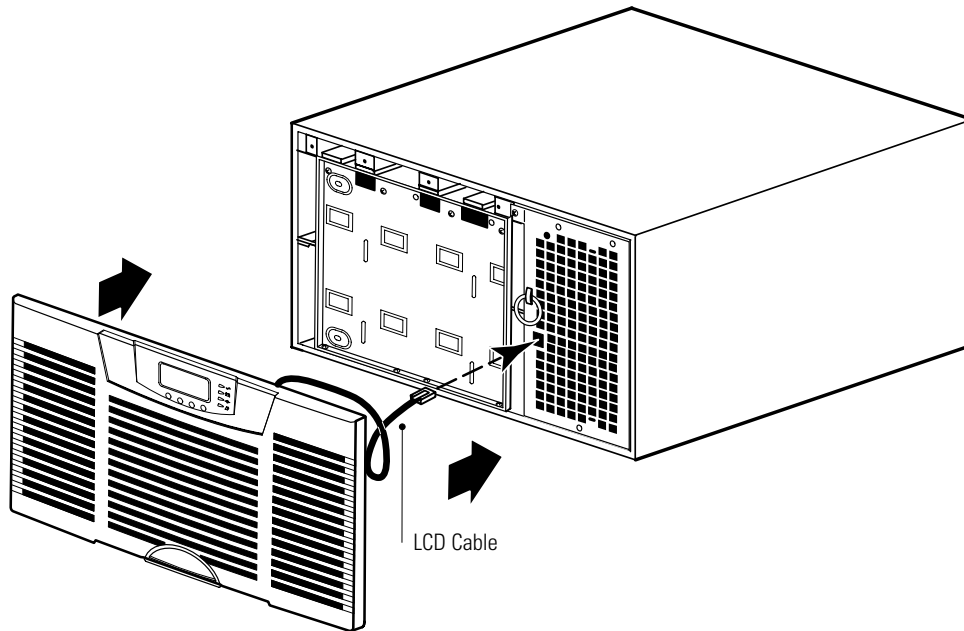

Figure 28. Installing the UPS Front Cover
5. Install the UPS front cover (see Figure 28):